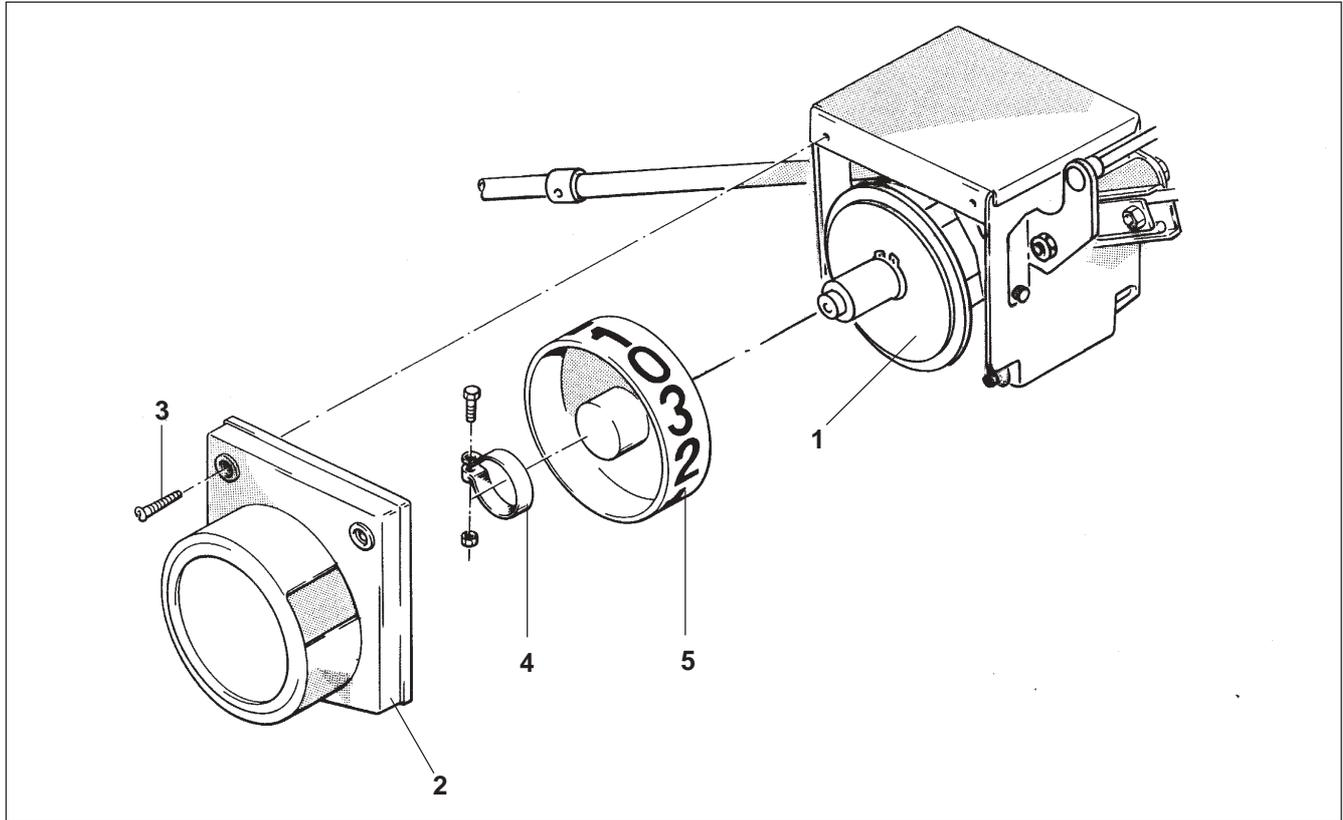

Fig. 26.50
A new divisor wheel (Fig. 26.50/1) has to be inserted into the switch box when converting
- Remove protective cover (Fig. 26.50/2) after removal of two tin screws (Fig. 26.50/3)
- Slacken clamp (Fig. 26.50/4) and pull off together with the display wheel (Fig. 26.50/5) .